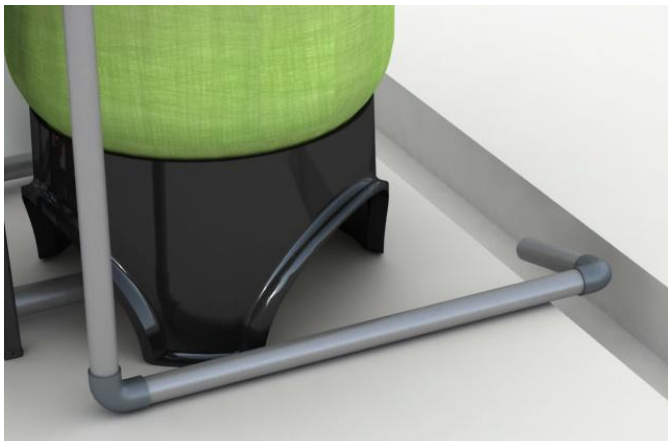

Figure 1-5
- e. Use DN80 (Outer diameter is $\phi 90$) UPVC pipeline stick to the drain, drain pipeline should directly to the sewer, the sewer and the drain pipeline should installed as figure 1-5.